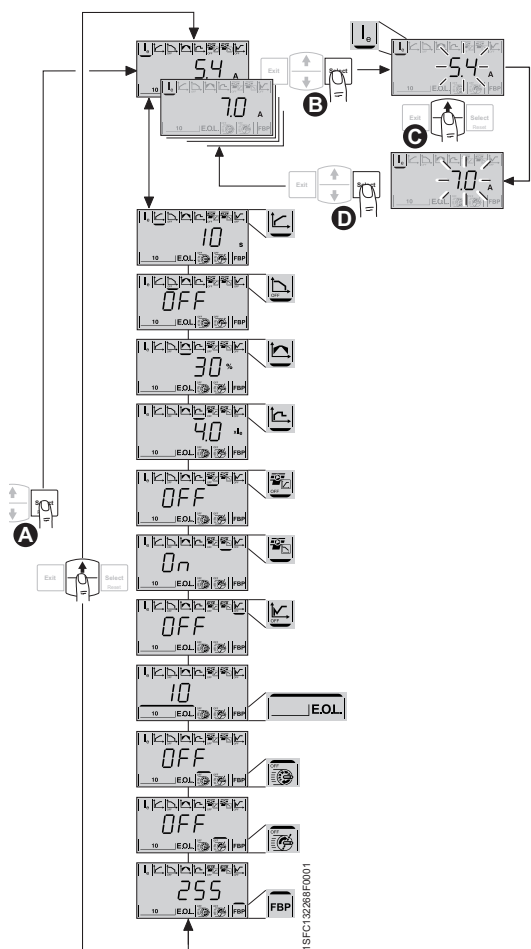

Figure 2.3:
10. Continue to configure parameter I_R as described in figure 2.3. Complete information about configuration is available in Chapter 6 Human-Machine Interface (HMI) and Chapter 7 Functions and configuration.